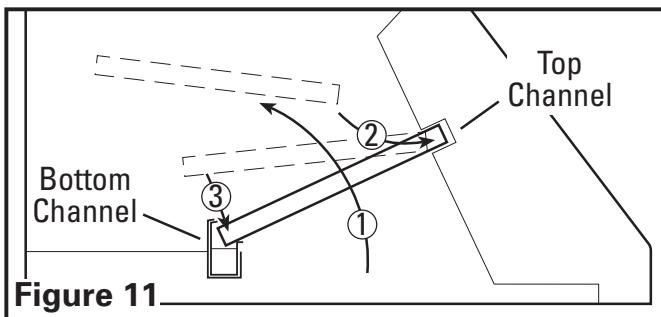

Figure 11
3. Install the baffle filters along with any spacer bars that are required by inserting the top of the filter into the top channel of the hood, then slide the bottom of the filter into the bottom channel. In models with spacers, it is easiest to install the spacer(s) first and the grease filters last (Figure 11).